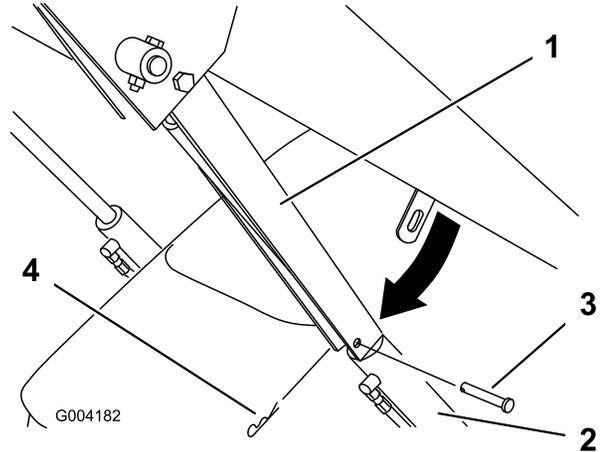

Figure 18
4. Remove the hairpin cotter and clevis pin securing the cylinder lock to the loader arm (Figure 18).
5. Lower the cylinder lock over the cylinder rod and secure it with the clevis pin and hairpin cotter (Figure 18).